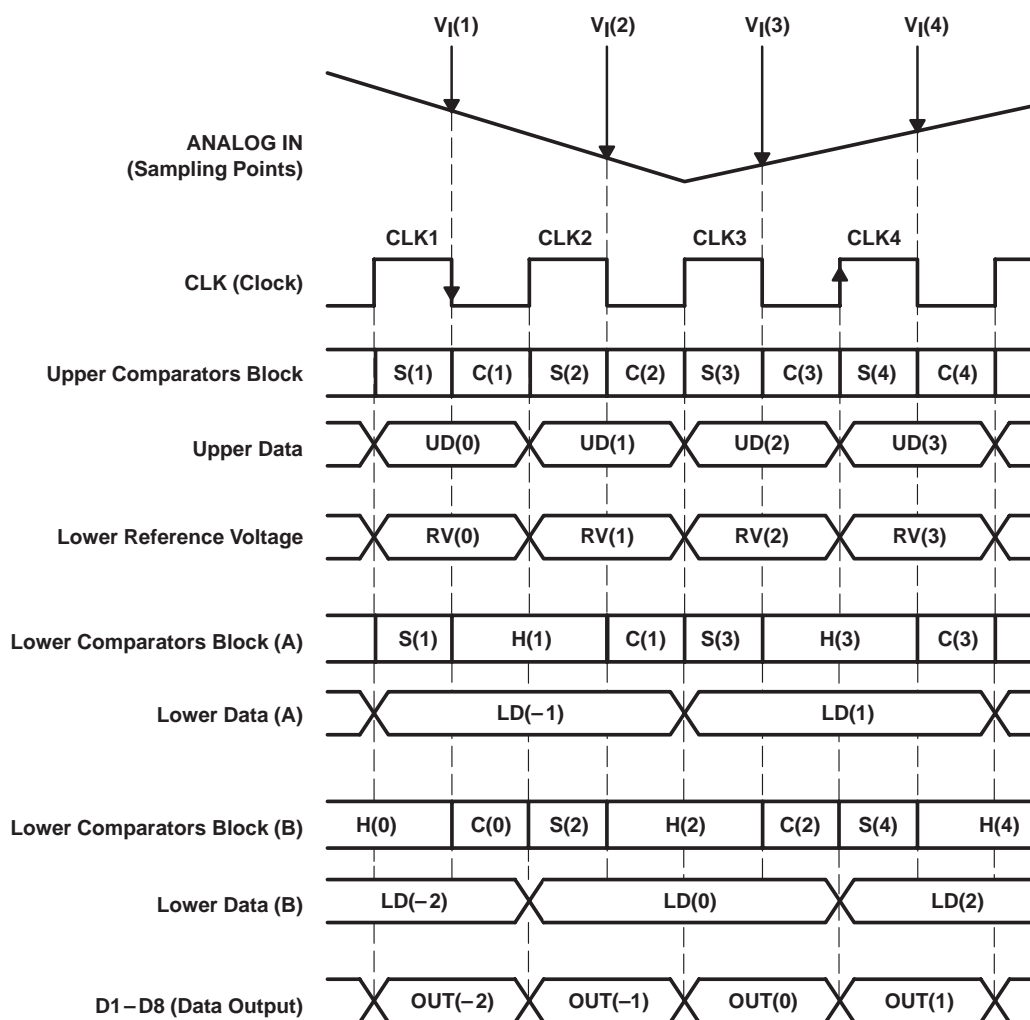

Figure 19. Internal Functional Timing Diagram
As shown in Figure 19, input voltage  $V_I(1)$  is sampled with the falling edge of CLK1 to the upper comparators block and the lower comparators block (A), S(1). The upper comparators block finalizes the upper data UD(1) with the rising edge of CLK2, and simultaneously, the lower reference voltage generates the voltage RV(1) corresponding to the upper data. The lower comparators block (A) finalizes the lower data LD(1) with the rising edge of CLK3. UD(1) and LD(1) are combined and output as OUT(1) with the rising edge of CLK4. According to the above internal operation described, output data is delayed 2.5 clocks from the analog input voltage sampling point.
The MSB comparator block converts on the falling edge of each applied clock cycle. The LSB comparator blocks CB-A and CB-B convert on the falling edges of the first and second following clock cycles, respectively. The timing diagram of the conversion algorithm is shown in Figure 19.